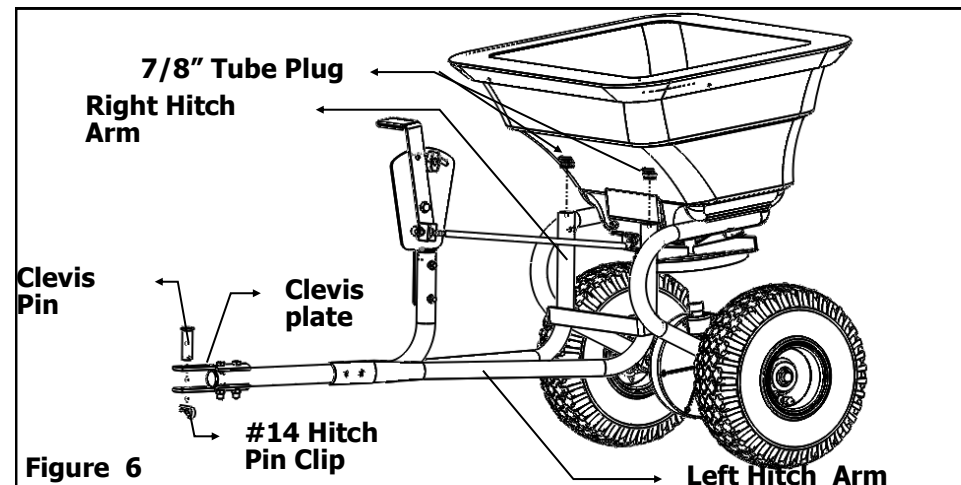

Figure 6
7. Push Clevis Pin through first large hole in Clevis Plate and secure with Hitch Pin Clip. Tap 7/8" Tube Plugs into the open ends of the Right and Left Hitch Arm. See Figure 6.